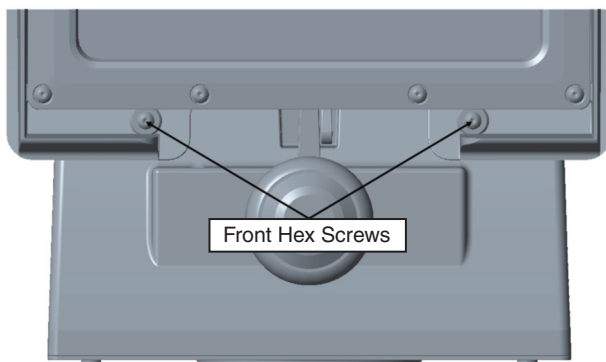

Fig. 1
1. The fixture should be set at a full cutoff 0° angle. **If this angle is desired, skip to step 5.** If another angle is desired (either 15°, 30°, or 45°) remove the two front hex screws (**Figure 1**).